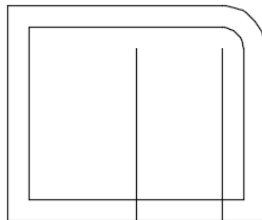

FIGURE 2.31: The lines are extended to the boundary edge.
- Press ↵ to end the EXTEND command (see Figure 2.31).